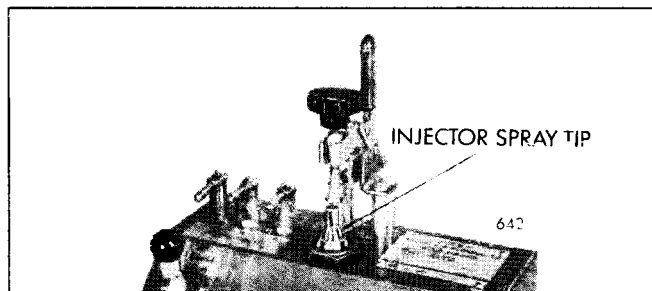

Fig. 14 - Spray Tip Installed in Tester
3. Remove the needle valve, if installed, and clamp the spray tip on the unit (Fig. 14).